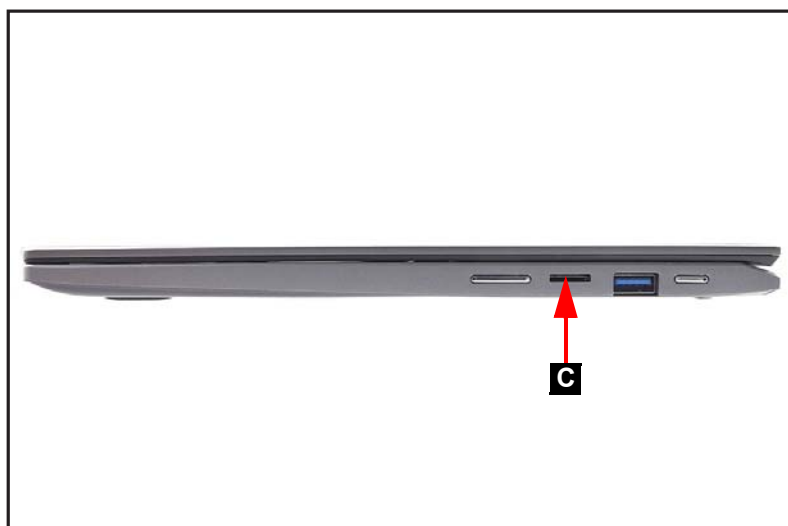

Figure 1-2. MicroSD Card Removal
4. Remove the microSD card from the microSD card slot (C) (Figure 1-2).